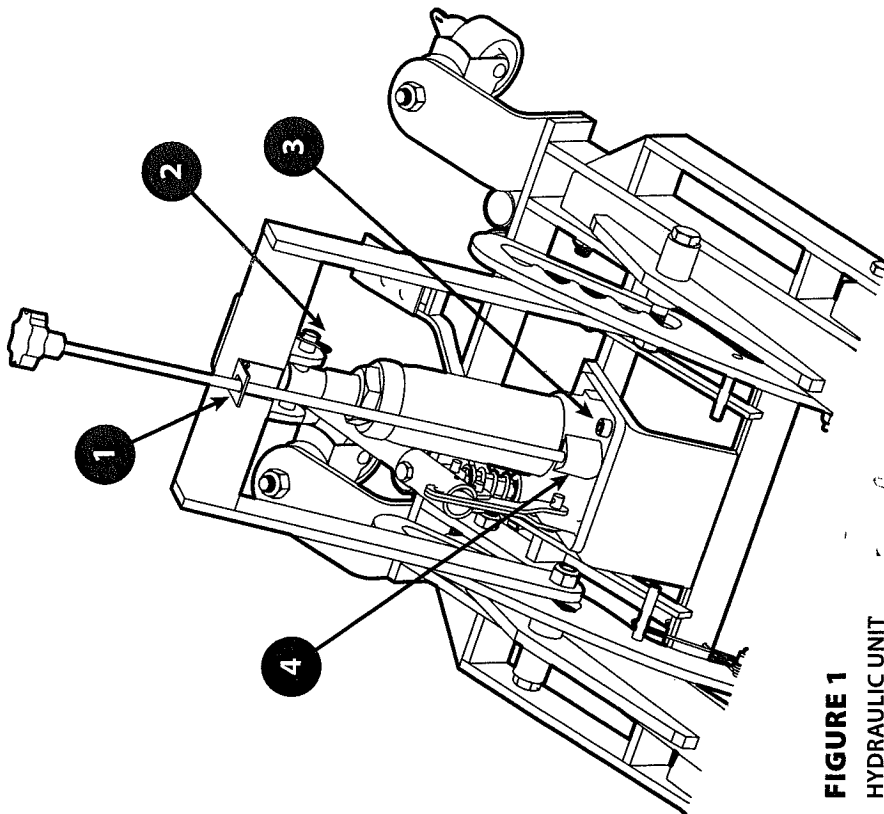
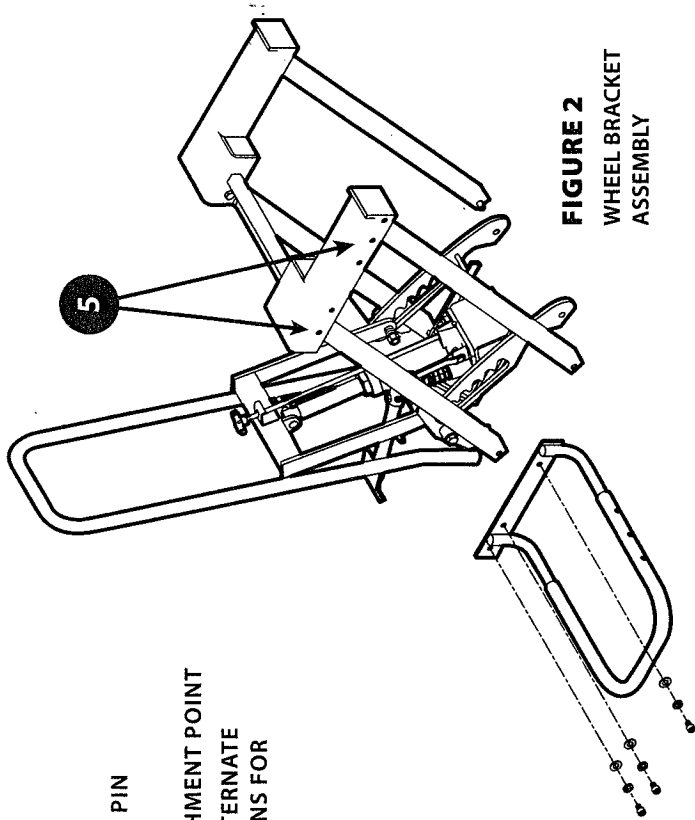

FIGURE 1
FIGURE 2
- 1. Install Hydraulic Unit on receiver and secure with provided M8 x 1.25 bolts. (Figure 1)
- 5. Install Positioning Handle into frame and secure using the provided pins (2).
- 6. Attach two Wheel Brackets to sides of Lift Platform. (Figure 2)